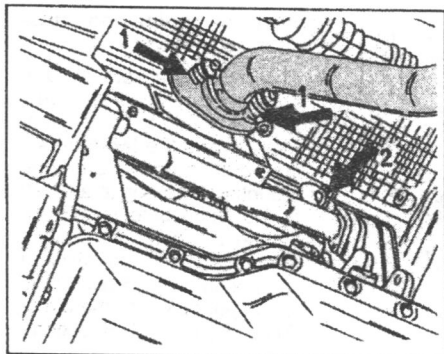

Fig. 1.8. — Attachment of the exhaust pipe-to-manifold connection (1) and the water hose-to-water pipe connection (2).
- Evenly unscrew the two nuts securing the exhaust pipe to the exhaust manifold and remove the two springs and spacers. The connection must be tightened in a certain manner during installation. Retain the springs, as they will be needed. Immediately below the exhaust pipe, disconnect a hose from the rear water pipe. Details of the parts mentioned above can be seen in Fig. 1.8 (behind the oil sump).